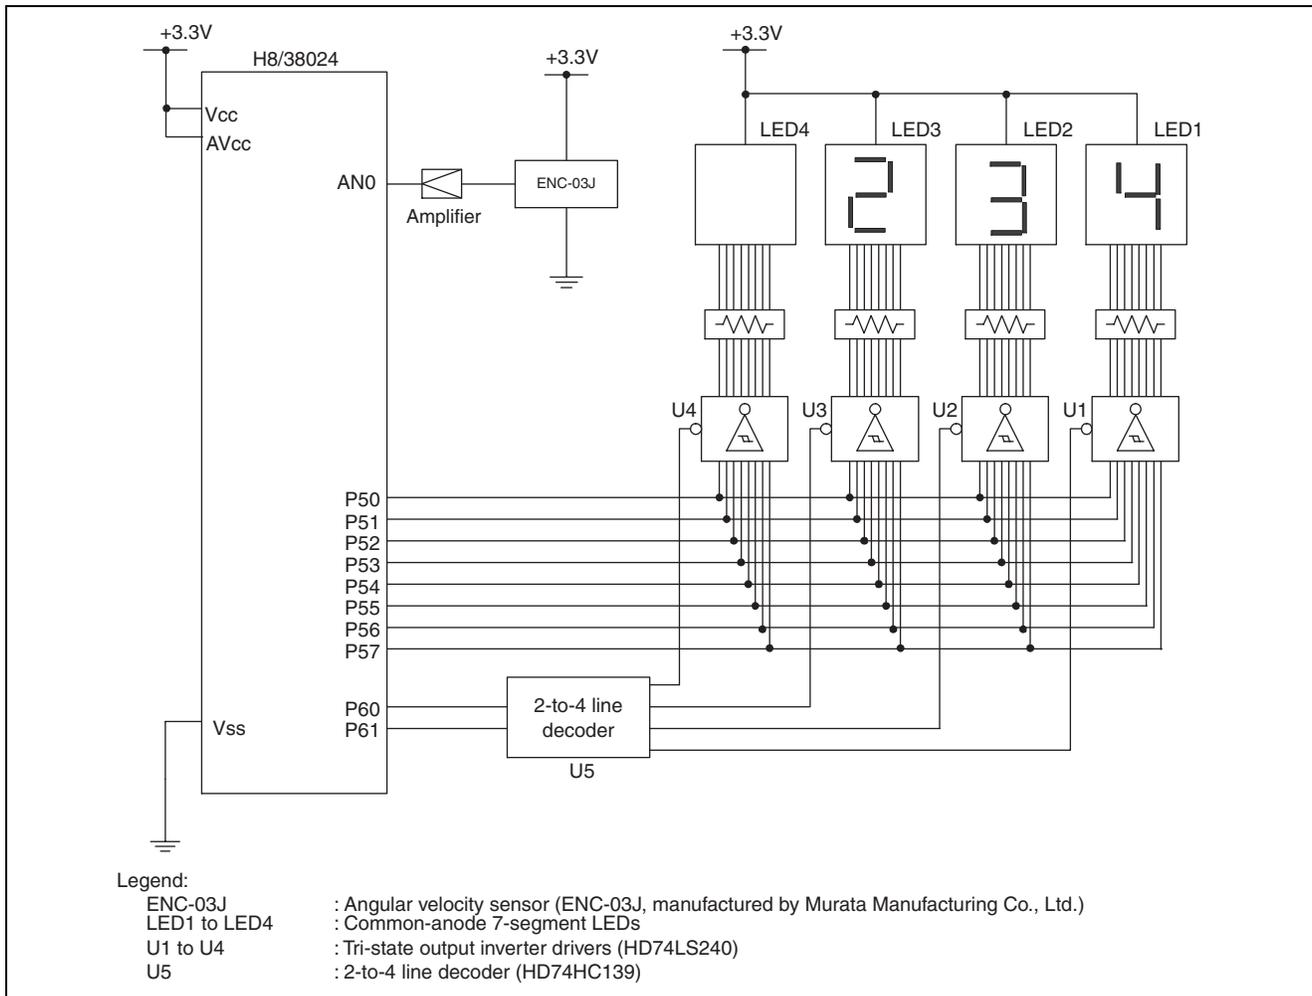

Figure 1 Hardware Configuration
1. Figure 1 shows an example hardware configuration for connecting a piezoelectric gyroscope. As shown in this figure, the sensor is connected to analog input pin 0 (AN0 pin).
- C. The value "234" in Figure 1 indicates that the angular velocity is 234 (deg/sec).